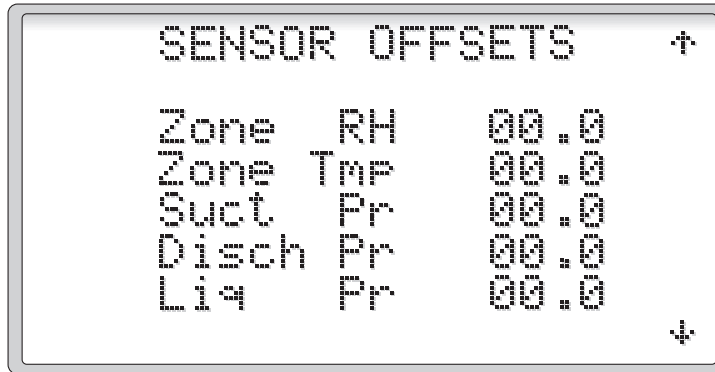

Figure 58
2.3.4.4 Sensor Offsets (Figures 58 - 59)